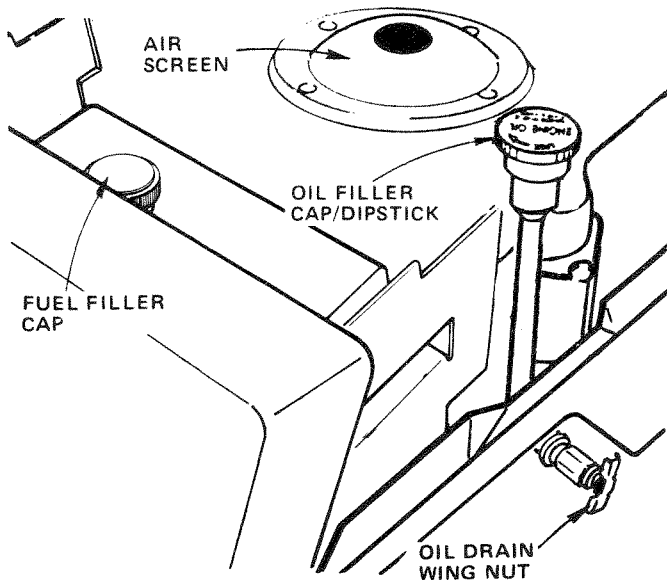

FIGURE 25
- a. Drain Oil with Engine warm. Loosen Oil Drain Wing Nut (Fig. 25) and remove Dipstick. Catch Oil in a suitable container. Tighten Oil Drain Wing Nut.
Air Screen (Fig. 25) must be kept free of dirt and chaff prevent Engine damage from overheating.